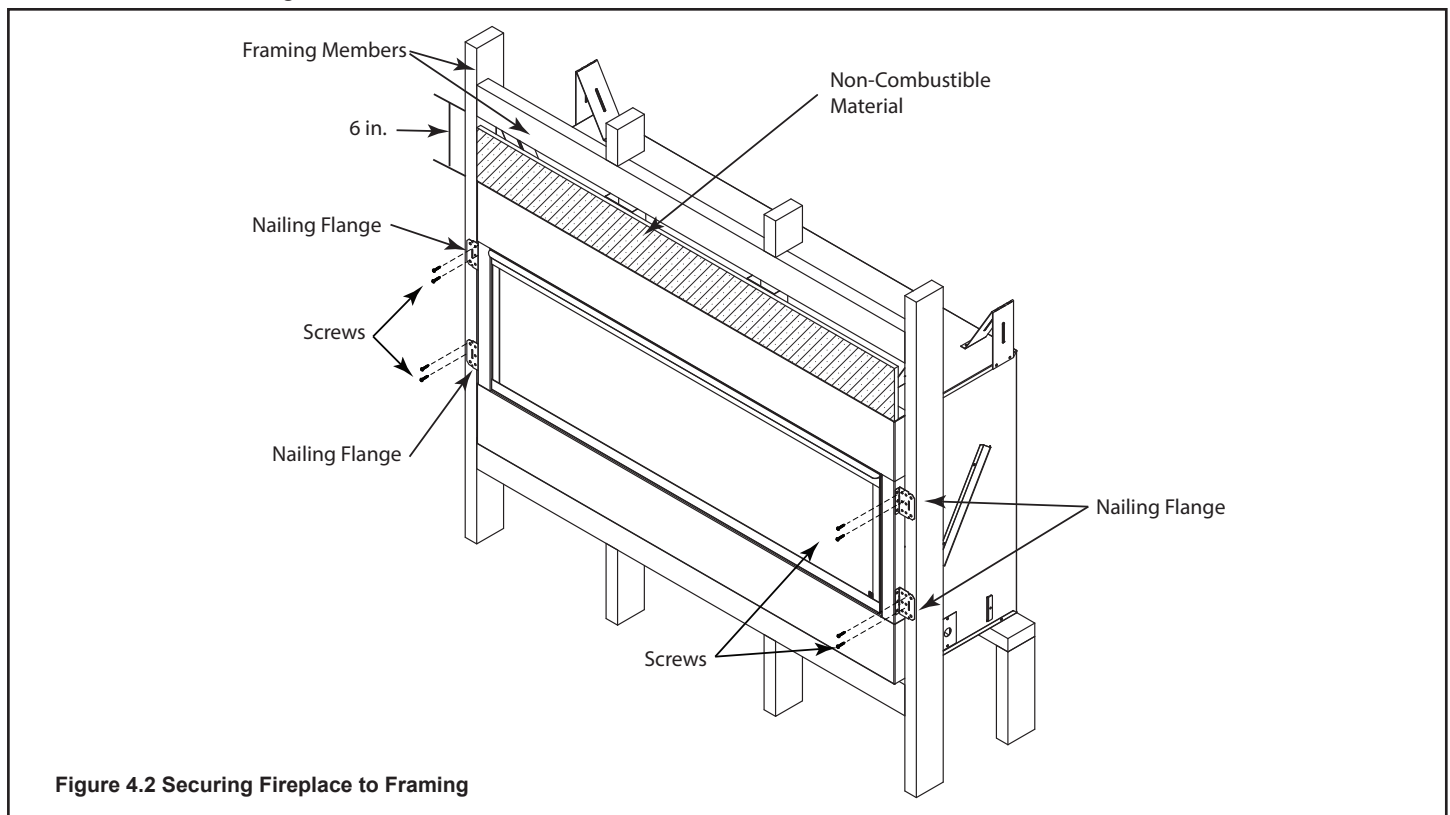

Figure 4.2 Securing Fireplace to Framing
- Keep nailing tabs flush with the framing. See Figure 4.2.
The left and right nailing tabs were designed as a means to ensure the fireplace is mounted flush with the framing materials. See Figures 4.2 and 4.3.